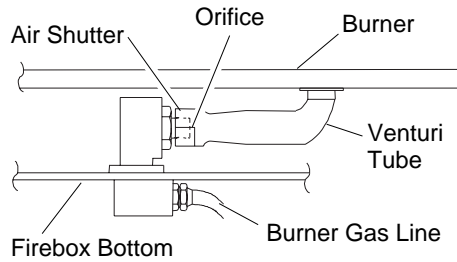
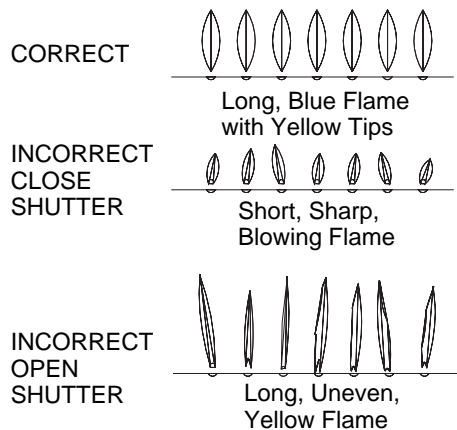

Figure 49 - Connecting Venturi and Orifice
Figure 50 - Burner Flame Patterns
The air shutter, located at the underside of the main burner (see Figure 49), has been factory preset to the proper air-to-gas ratio which results in an even, clean burning flame across the burner (see Figure 50). If readjustment is necessary, you can restore the proper air-to-gas ratio by loosening the air shutter screw and rotating the air shutter until the proper flame setting is achieved (see page 22, column 2 for proper shutter settings). Do not forget to retighten the air shutter screws.
**CAUTION:** Make certain the orifice is inside the venturi tube's air shutter, see Figure 49.